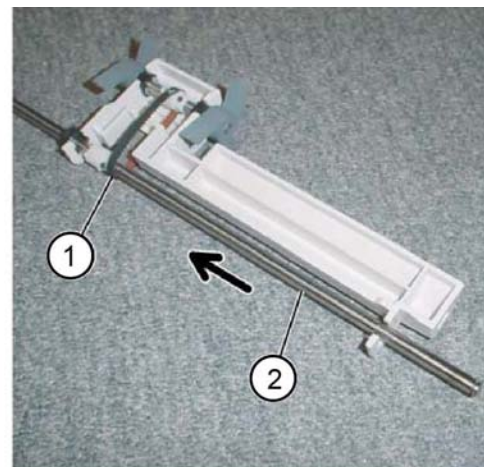

Figure 7 Shaft assembly removal
9. Remove the shaft assembly, Figure 7:
a. Remove the paddle belt (1) from the pulley.
b. Remove the shaft assembly (2) in the direction of the arrow.